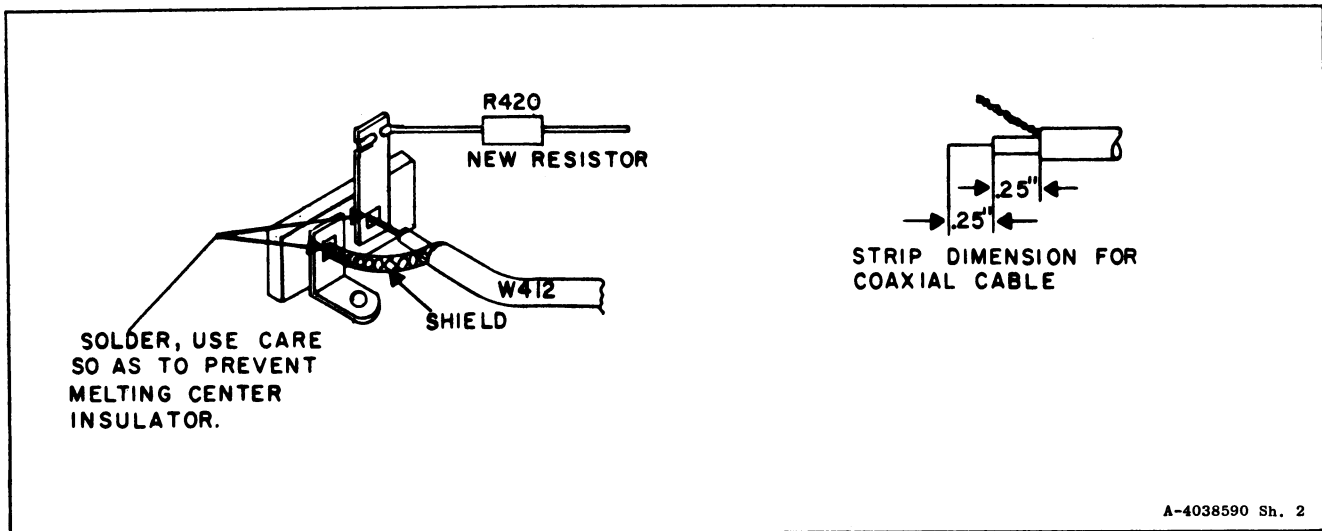

Figure 2 - Connections to TB3
Connections to TB3	Figure 2
- f. Route cable supplied with Modification Kit A-4038585 through the can on the RF Assembly as shown in Figure 1. This cable can be identified by its male, right-angle connection on one end. Connect to terminal strip as shown in Figure 2. Now install terminal strip with cable attached as located in Figure 1. Use the longer screw furnished with the kit to assemble. Be sure three (3) lockwashers are applied -- one between each terminal strip foot and the nut. Connect the resistor furnished as part of this kit between the new terminal strip and XQ411-E and solder. (See Figure 2.)